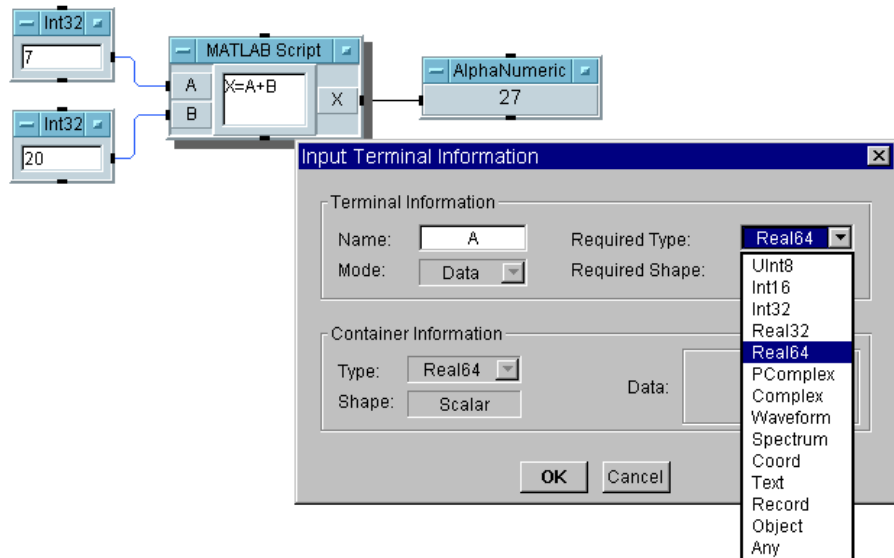

Figure 4-13. Changing Input Terminal Data Type
5. Double-click on terminal A to open the `Input Terminal Information` dialog box. Click on `Required Type:` to display the drop-down menu, select `Real64`, and click OK. Double-click on terminal B and change it to a `Real64` as well, as shown in Figure 4-13.